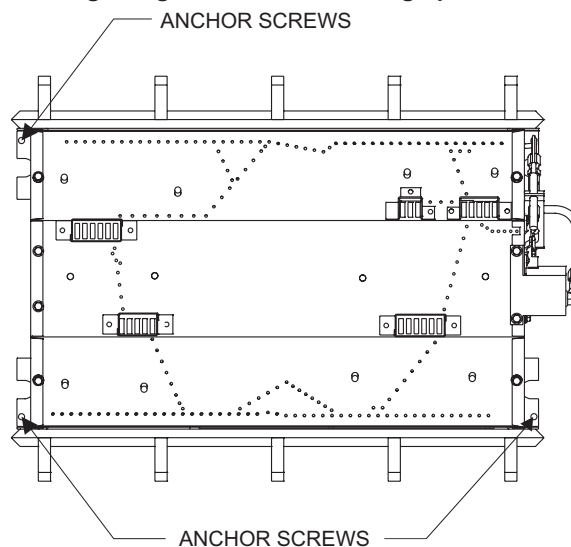

Figure 12
3. Anchor the grate to the fireplace/firebox floor using the screws provided. Refer to Figure 12.